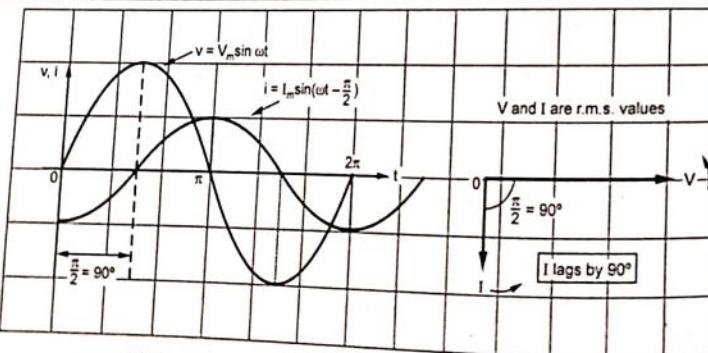

Fig. 3.2.2 A.C. through purely inductive circuit
- The Fig. 3.2.2 shows the waveforms and the corresponding phasor diagram.